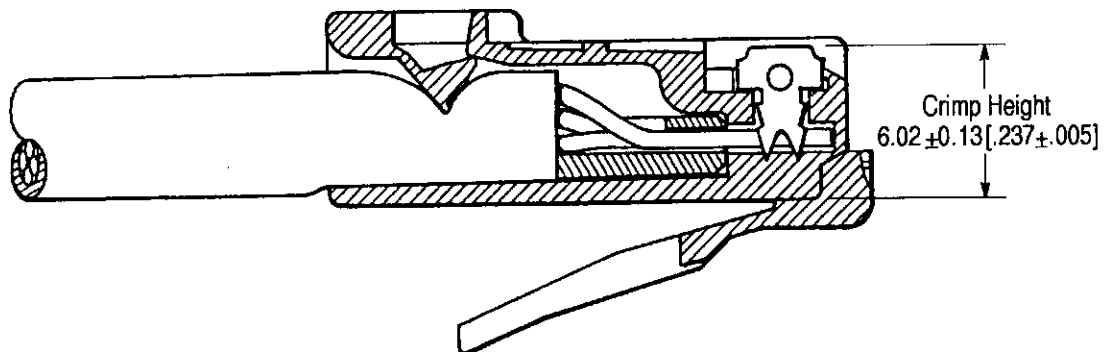

Figure 9
B. The crimp height shall be 6.02 ± 0.13 [.237 \pm .005] per FCC regulations, Part 68, Subpart F; and measured at the location indicated in Figure 9.